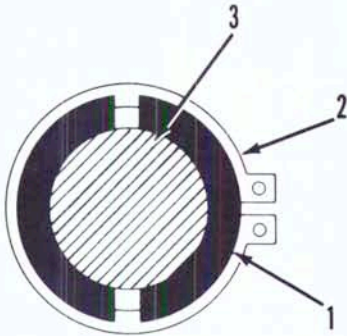

Fig. 129—Position set collars (1) and snap rings (2) as shown when reinstalling differential pinion shafts (3) on Models L295, L305, L345 and L355.
cover. Align match marks on side and pinion gears made prior to disassembly. Position set collars (1—Fig. 129) and snap rings (2) as shown. Tighten bevel ring gear mounting bolts to a torque of 61-70 N·m (45-50 ft. -lbs.) Be sure lockplates (1—Fig. 128) cover dowel pins (2).